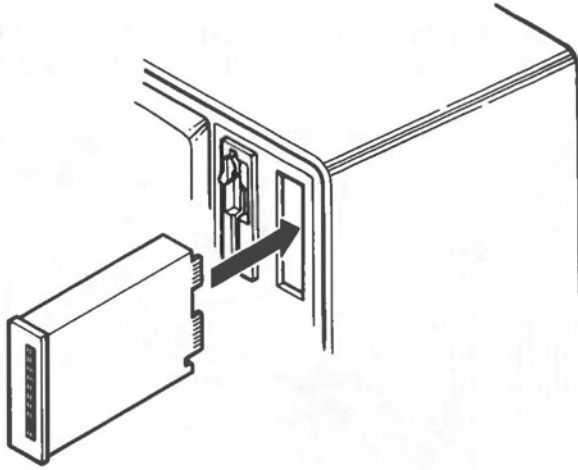

Figure 3-38 Drive Installation
5. Insert the rear end of the drive into the rectangular opening in the front panel (see Figure 3-38). Slide it rearward into the computer opening until the front of the drive is flush with the front computer panel.